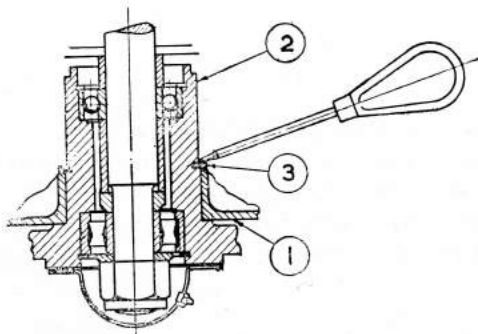

Fig. 13
If it is desired to remove the main gear wheel (1) from the pawl box (2), the retaining circlip (3) can be removed by applying a screwdriver under the centre of the circlip and levering it upwards until it springs off (see fig. 13).